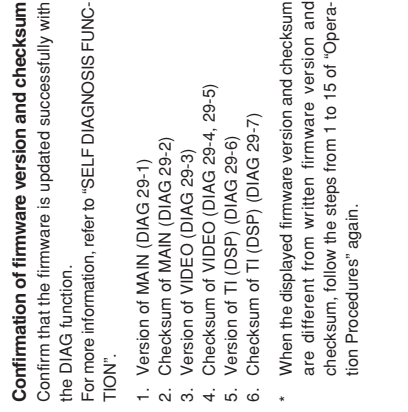

Fig. 2
- Then the ADVANCED SETUP mode is activated. (Fig. 2)